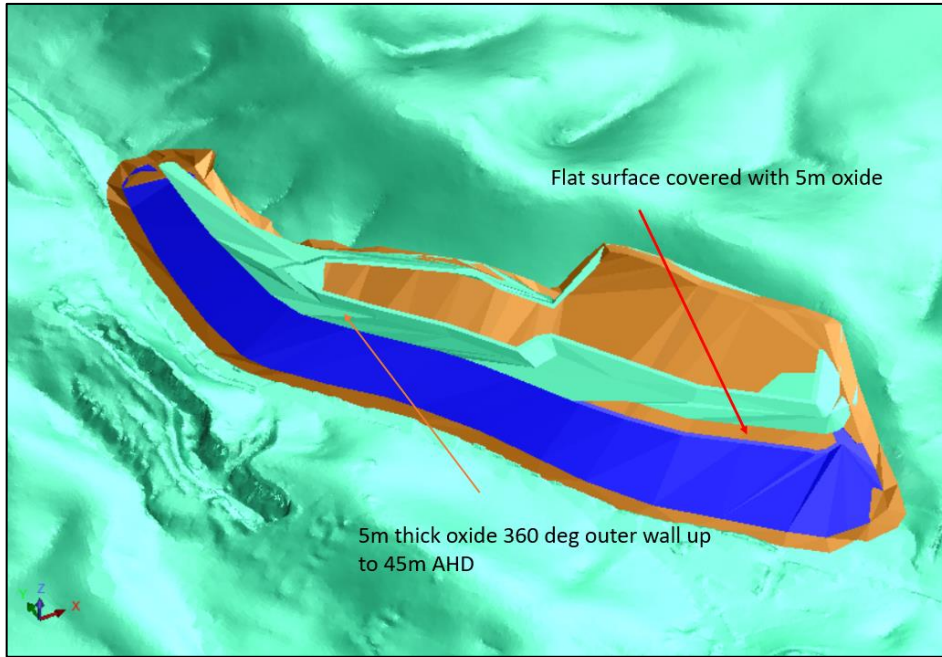

Figure 1-22 Oxide Component Between 35 m AHD and 45 m AHD
- Five metre thick outer oxide cladding from 35 m AHD to 45 m AHD; all sides of the WRD (Figure 1-22);